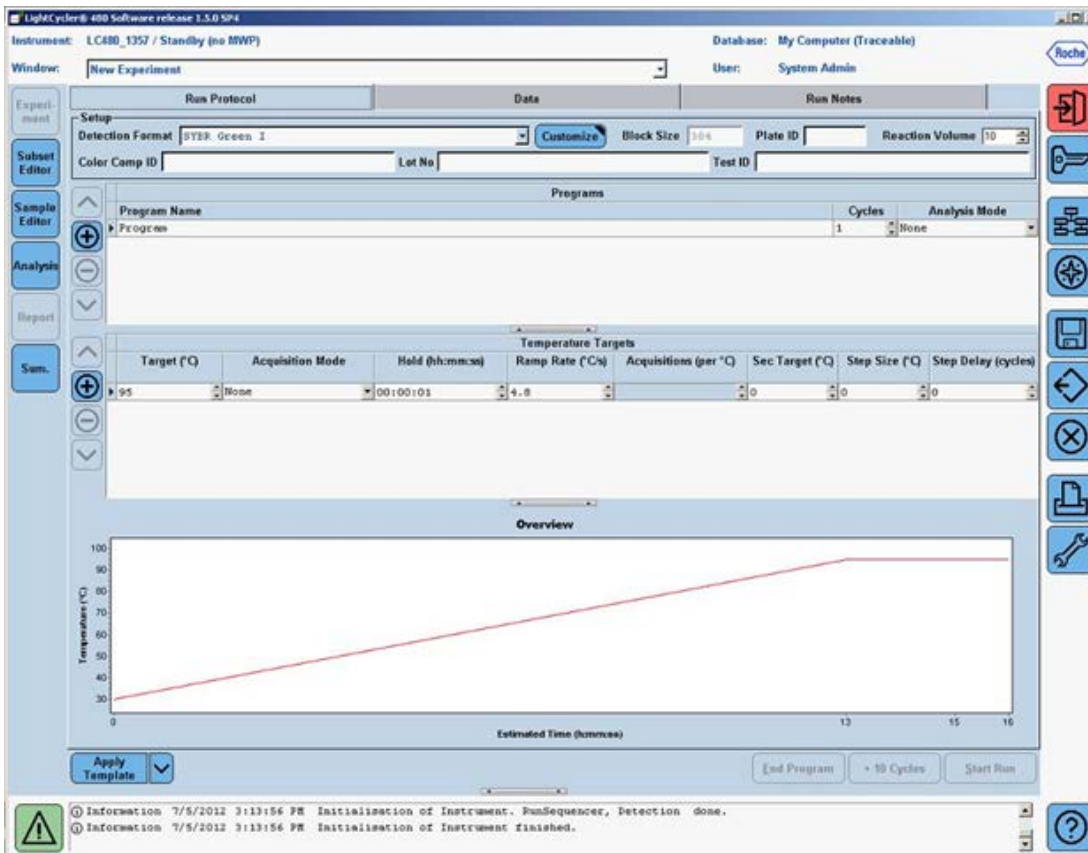

Figure 2. Initial run protocol window.
5. In the "Setup" area at the top of the "Run Protocol" tab (Figure 2), specify the following setup parameters: